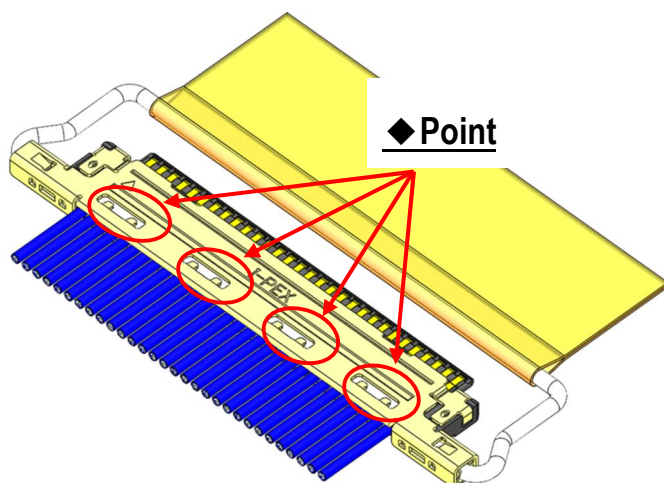

Fig.11 Soldering of Shell-A and Ground Bar
- ③ Soldering shell-A, B, and ground bar with the soldering iron at all designated points is recommended. (Fig.11,12 ◆ point)
※In case of soldering discrete cable, soldering at Fig.11,12 ◆ point is impossible.